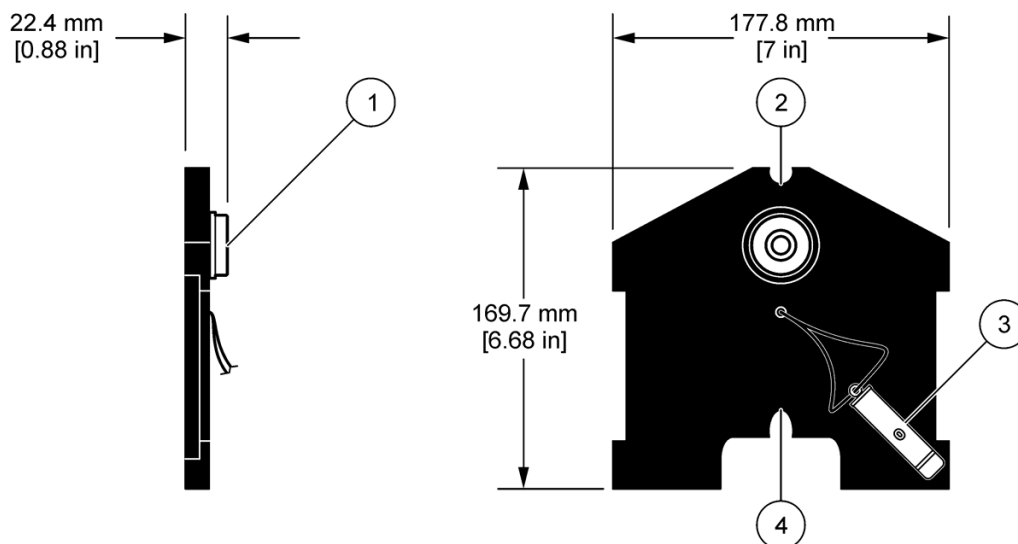

Figure 1 Laser alignment tool dimensions and features
The laser alignment tool is used to accurately position the supporting frame for the FLO-DAR sensor. The tool simulates the position and direction of the FLO-DAR velocity and level sensors with a laser pointer. Refer to Figure 1 for dimensions and features.
1. Snap the laser pointer in the velocity position (see Figure 1) of the alignment tool. Make sure the laser pointer is fully seated in the slot.
1. Snap the laser pointer in the level position (see Figure 1) of the alignment tool. Make sure the laser pointer is fully seated in the slot.